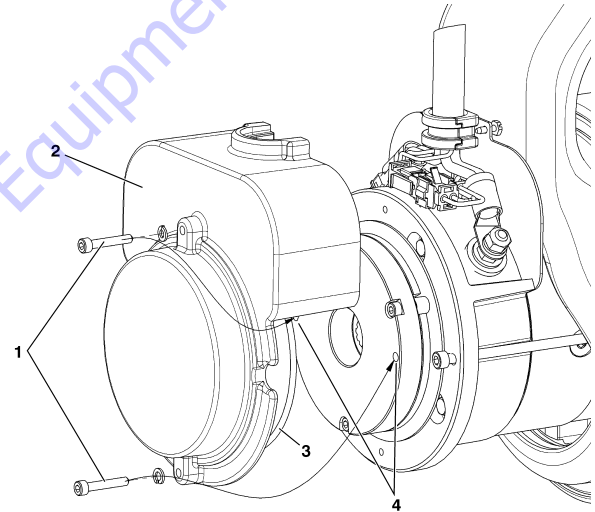

Figure 4-5. Manual Disengage
3. Remove the **two cover bolts (1), cover (2), and cover o-ring seal (3)** from the back of drive motor unit.
4. Insert the **cover bolts (1)** into the **two disengage holes in the brake housing (4)**, see Item 4 in Figure 4-5., Manual Disengage.
7. After towing is complete, chock wheels and **remove cover bolts (1)** from **disengage holes (4)**.
8. Reinstall **cover (2)**. Before installation, check the **cover o-ring seal (3)** for damage, replace if necessary.